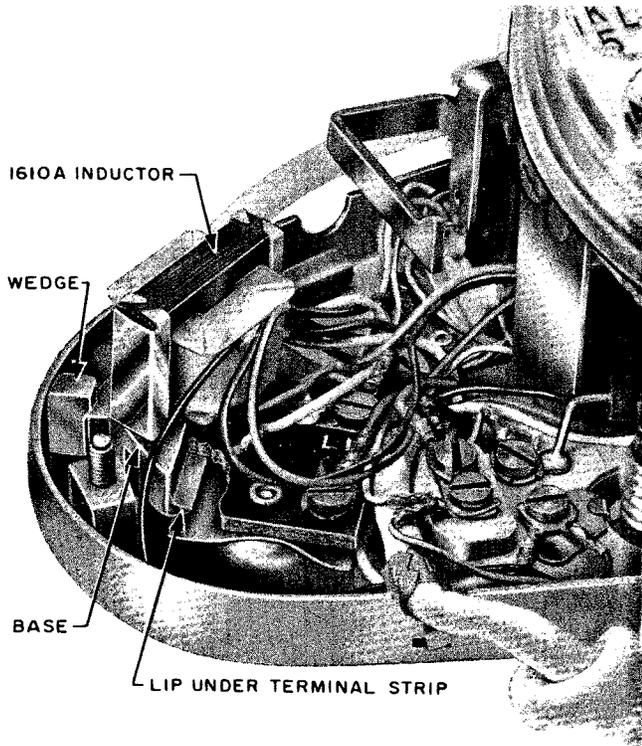

Fig. 5 - Location of 1610A Inductor
4. Insert inductor in the position shown in Fig. 5 and 6, making certain that the lip of the inductor base is under the edge of the terminal strip.